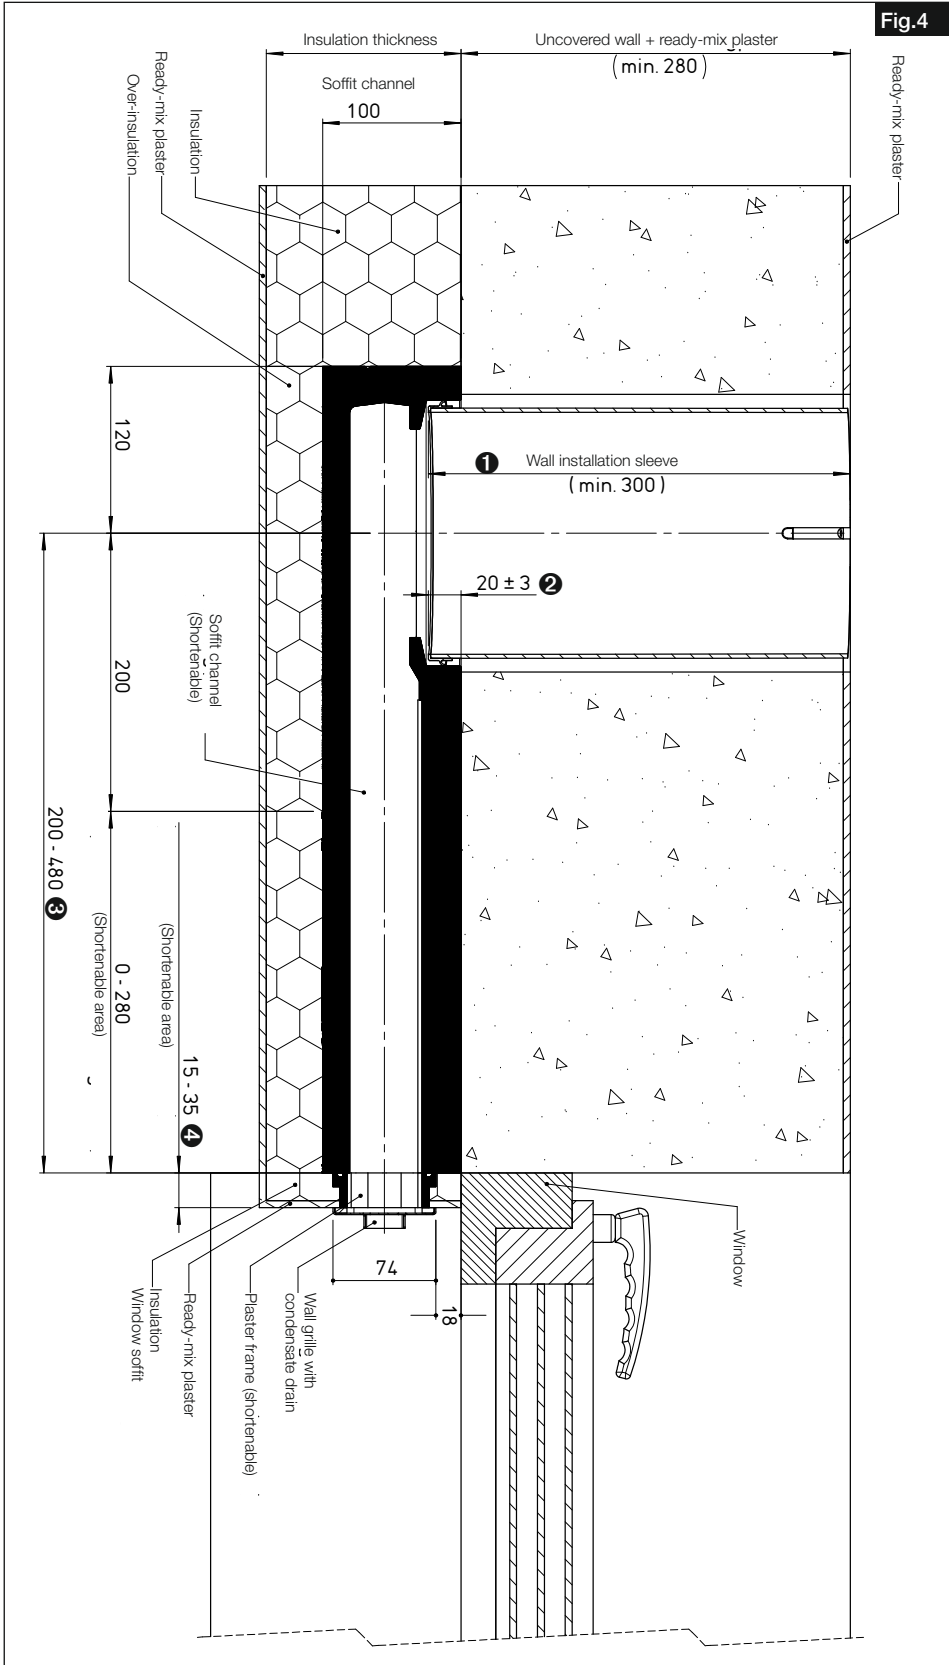

Fig.4
The length of the wall installation sleeve comprises the thickness of the uncovered wall with internal ready-mix plaster and the immersion depth (2) in the soffit channel (see Fig. 4 & 5).
Note interfering contours! The shutter rail or the like must pass over the wall grille, see Fig. 4.